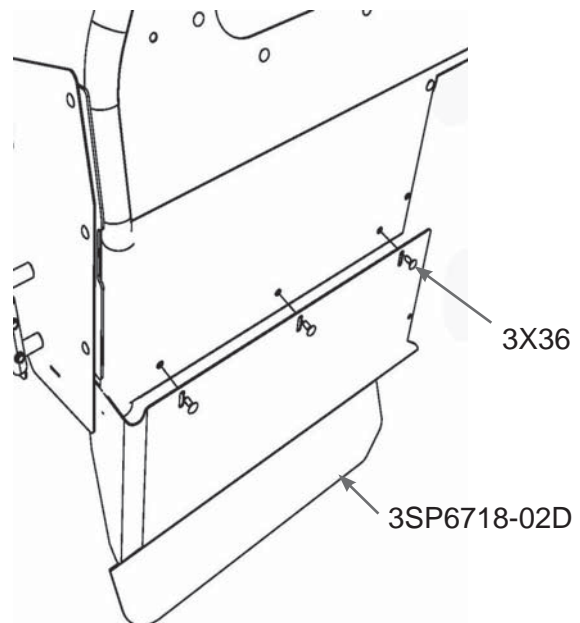

Fig. 4
- A. Next, install the driver's side bucket seat protector (3SP6718-02D) by aligning holes with the partition and fasten using (3X36) bolts and (3X16Z) whiz nuts. The seat protector fits tight to the floor when in proper location. (Fig. 4)